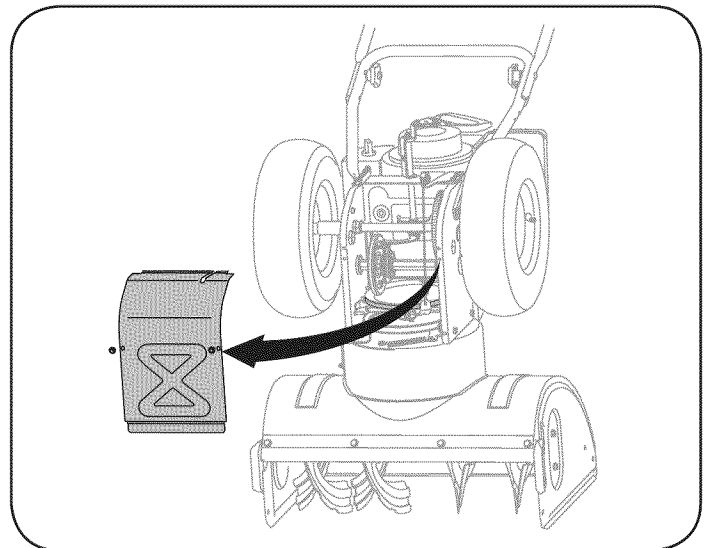

Figure 29
5. Remove the frame cover from the underside of the snow thrower by removing the self-tapping screws which secure it. See Figure 29.
5. Remove the frame cover from the underside of the snow thrower by removing the self-tapping screws which secure it. Refer to Figure 29.